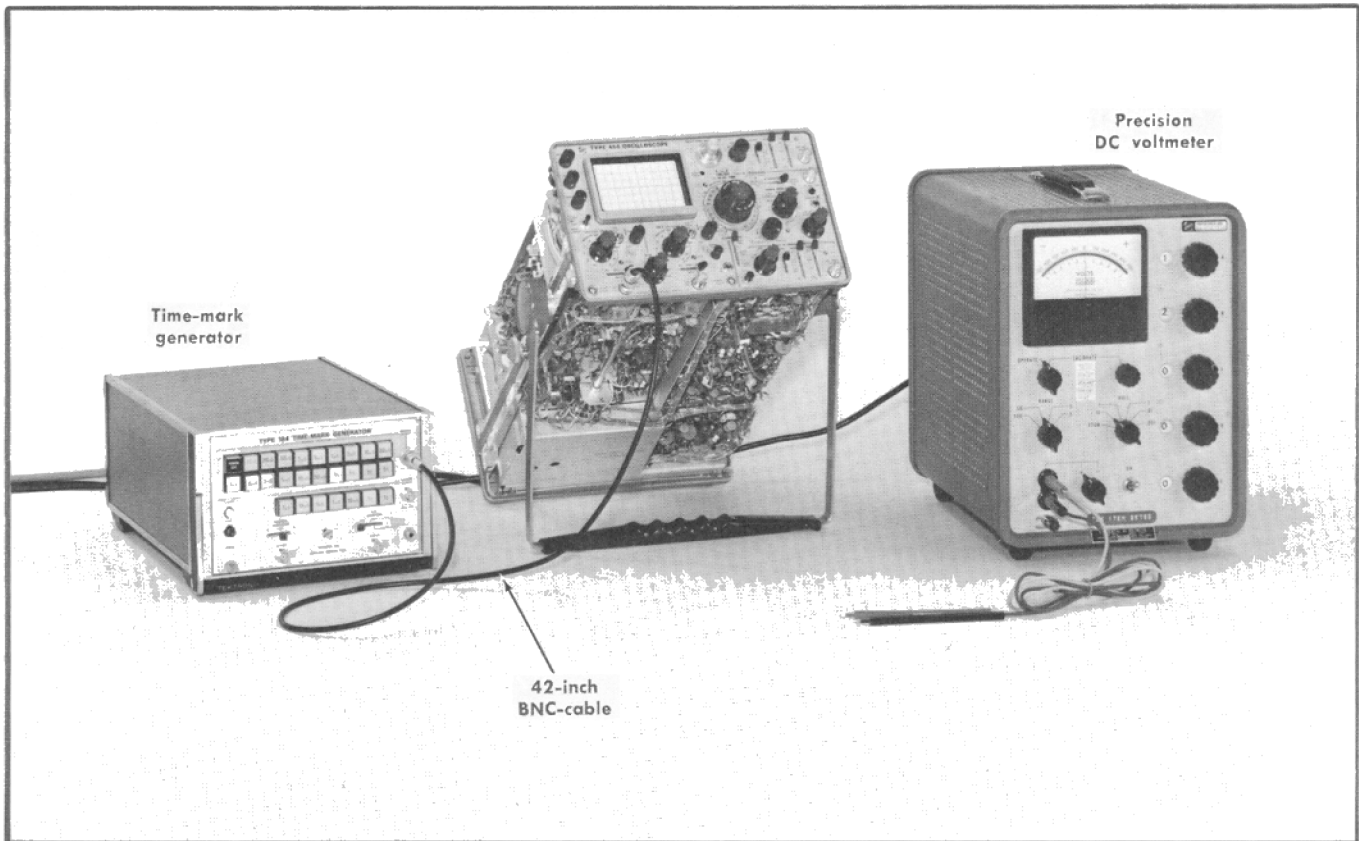

Fig. 6-11. Initial test equipment setup for steps 9 through 14.
- a. Test equipment setup is shown in Fig. 6-11.